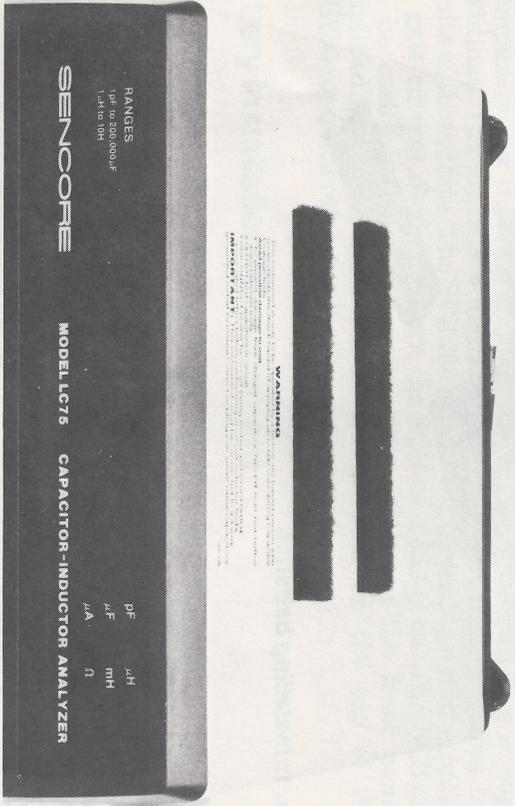

Fig. 2: Velcro® strips installed on the top of a "Z METER".
2. Remove the protective backing from one of the "loop" type Velcro® strips and mount the strip immediately behind the warning label on the top of the Z-Meter, as shown in Figure 2.